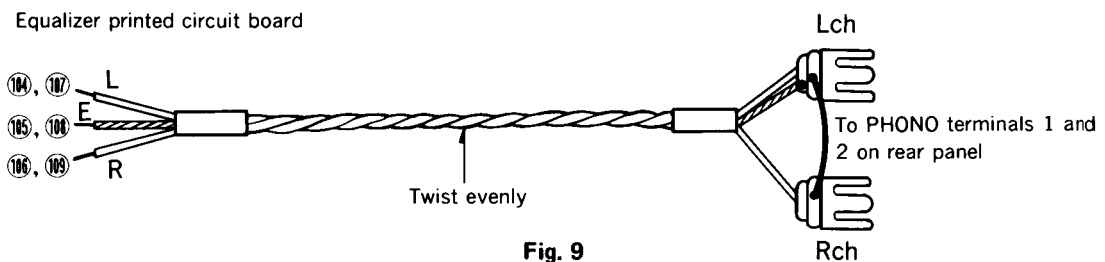

Fig. 9
2. The S/N ratio of the equalizer circuit may be influenced depending on the way of lead wire arrangement. So, after repair of this circuit, twist the leads of phono 1 and 2 evenly 5 or 6 times before connecting them to the terminals. Such may decrease the hum level. (See Fig. 9)